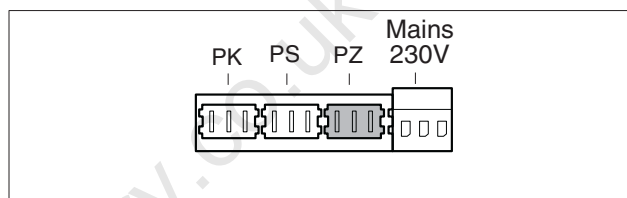

fig. 56 Terminal strip - DHW circulation pump 230V (connection colour lilac)
- Connect the DHW circulation pump to the lilac PZ terminal (fig. 56). The maximum allowed connected load of the pump = 250 Watts.